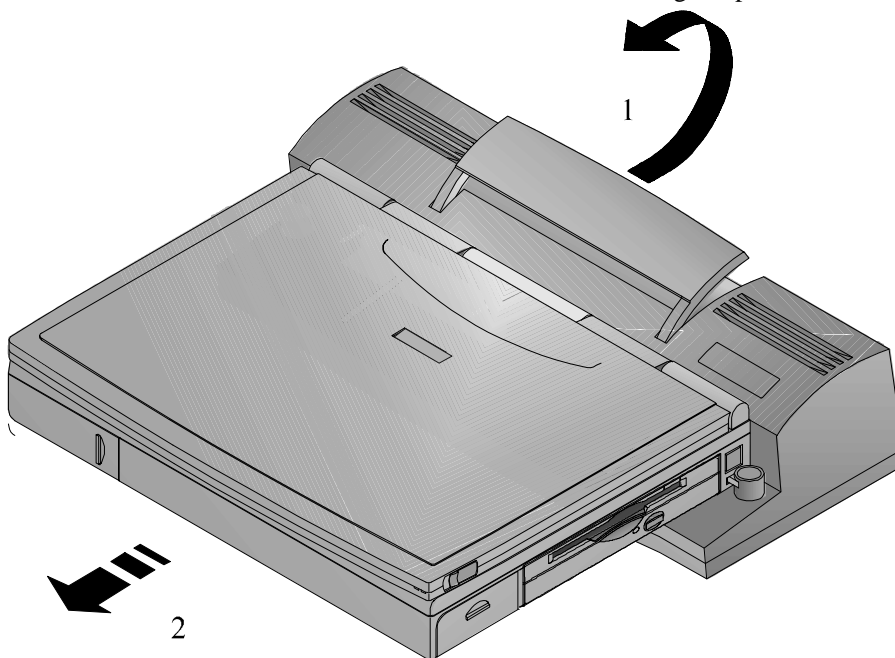

Figure 6-15: Undocking the Notebook from the Port Replicator
1. Raise the Release latch in the direction of the arrow shown. (Figure 6-15, step 1)
2. Slide the notebook away from the Minidock (Figure 6-15, step 2)